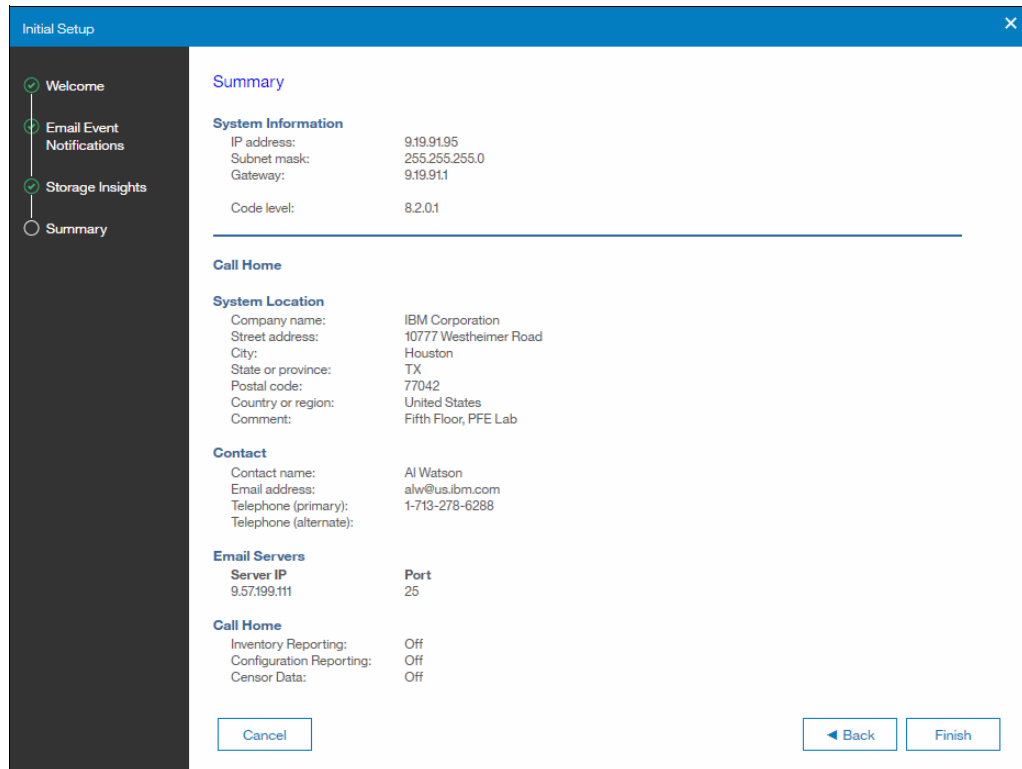

Figure 6-71 Summary screen
26. The Summary screen is displayed (Figure 6-71).